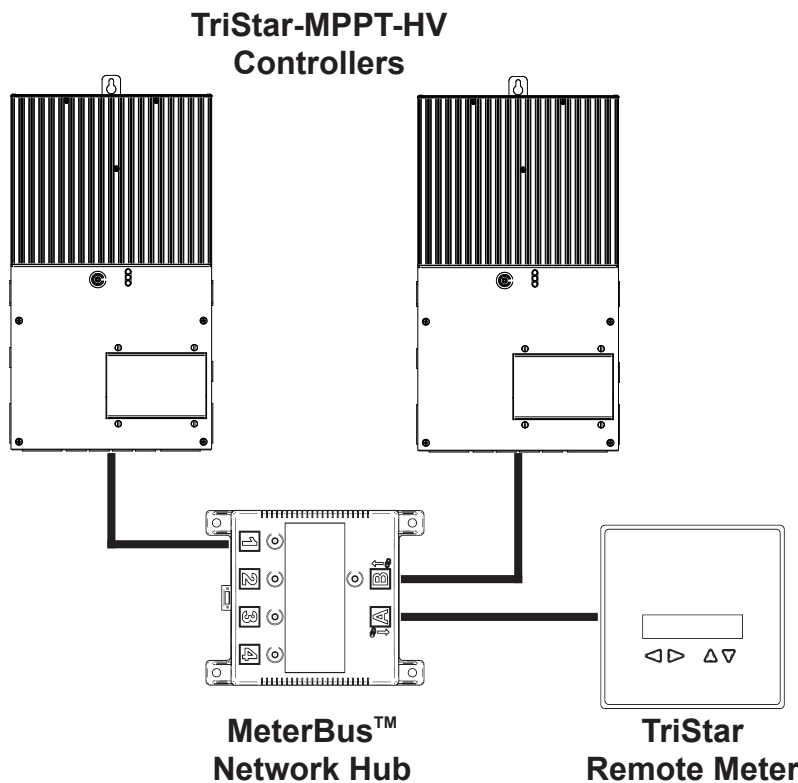

Figure 5-1. An example MeterBus network.
A MeterBus Hub (model: HUB-1) is required for MeterBus networks containing multiple TS-MPPT-600V-TR controllers. The ports on the hub are electrically isolated to prevent damage in the event of broken grounds or voltage differences between controllers. Figure 5-1 below shows an example MeterBus™ network with two (2) TS-MPPT-600V-TR controllers and a TriStar Remote Meter 2 (TS-RM-2).